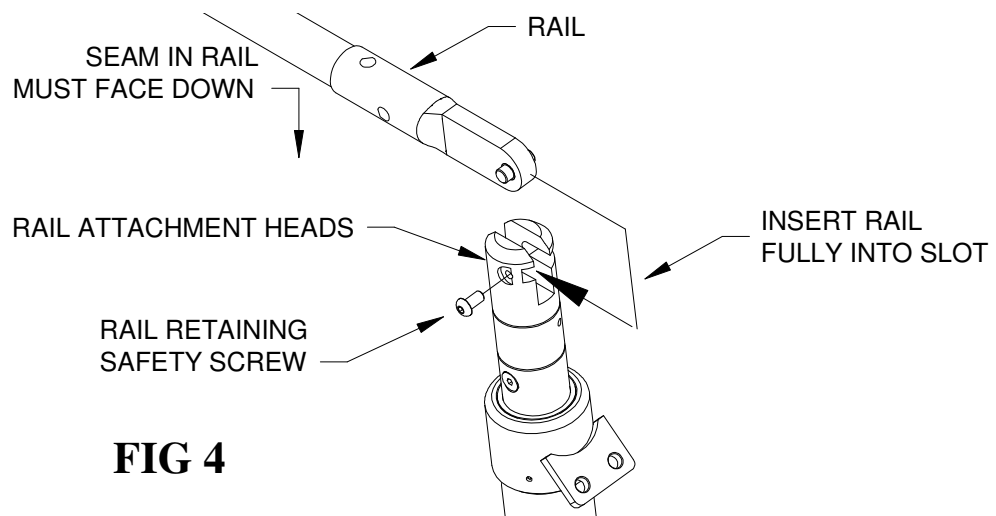

FIG 4
15. Fit the rails into place as shown in Fig. 4. There is a seam in the veneer of the rail. The rails should be fitted into the head casting in a way that the seam is facing down. Tighten the Safety Screw securely using the 3/16" Allen Key in all 4 Rail Attachment Heads once the rails are installed.